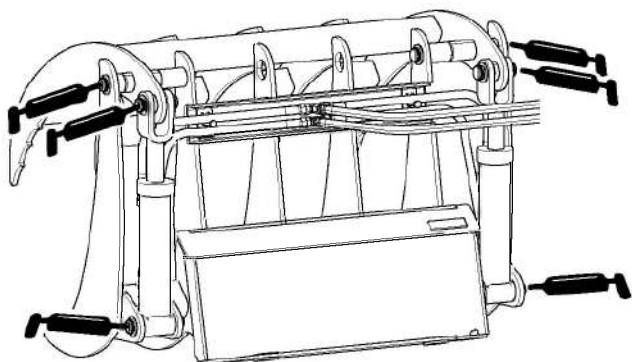

Figure 8
4. Connect a grease gun to each fitting (Figure 8).